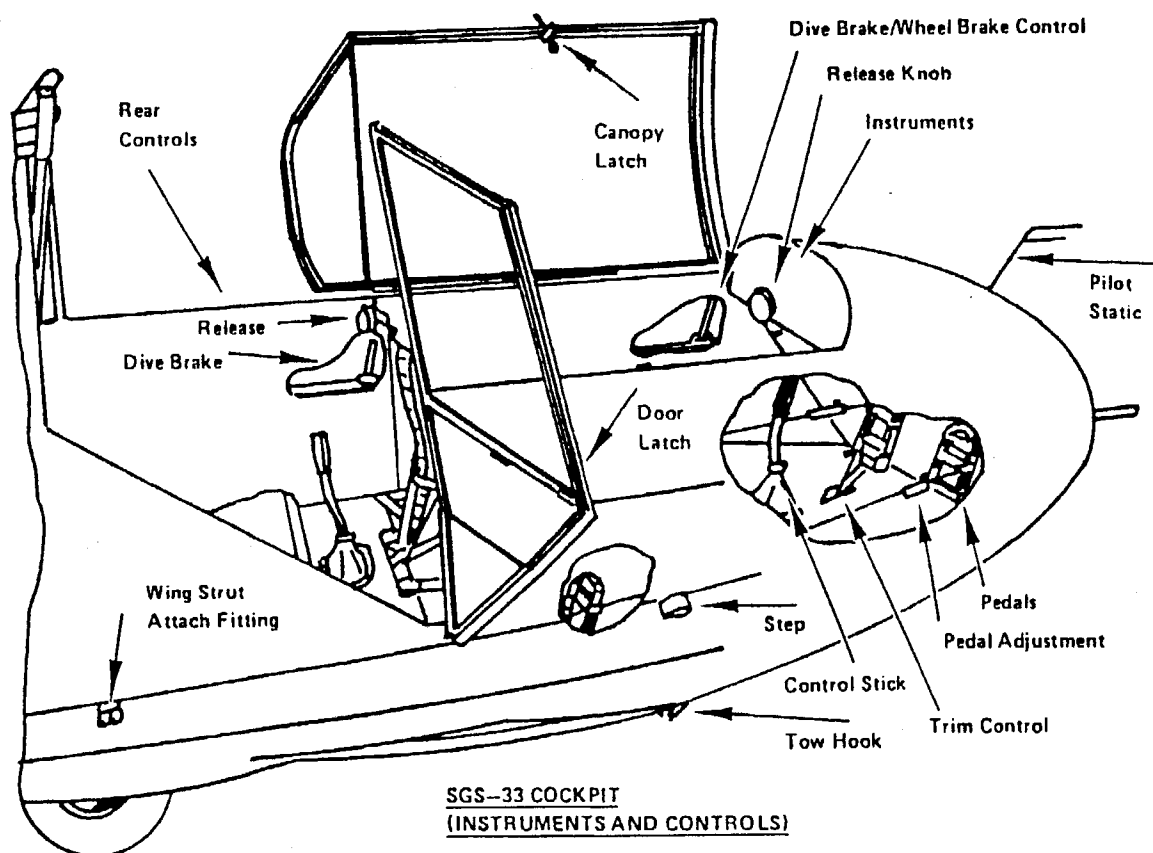

FIGURE 3-2
b. Above (Fig. 3-2) is a picture of the SGS 2-33 exterior cockpit area:
- (1) You fly in the front seat.
- (2) Don't apply excessive force to the canopy frame or plexiglass. Always keep the canopy closed and locked when not in use.
- (3) The tow hook below the front cockpit is where the tow rope is attached.
- (4) Between the tow hook and the main wheel is a metal strap called a skid. With a person in the front seat, the sailplane rests on the skid and main wheel. On the takeoff roll, when there is sufficient airspeed, the skid rises off the runway if you hold in some back stick pressure. On the final part of the landing roll out, the skid slides on the grass or ground and (along with wheel braking, if used) helps slow you down.
- (5) The pitot static tube near the aircraft's nose senses static air pressure and also dynamic air pressure when the aircraft is moving into the wind. Static pressure alone operates the altimeter and variometer. Static and dynamic pressure operate the airspeed indicator, which compares the two pressures to give you an airspeed indication.
- (6) The appendage directly on the nose is a handhold to aid in ground handling the sailplane. Push down on handhold to move tail around. Lower tail gently.
c. Inside the SGS 2-33 cockpit (refer to Fig. 3-2):
- (1) The instruments and radio in the front cockpit are the only ones in the sailplane. Your Instructor sees them over your shoulder. He/she may ask you to adjust them during flight.
- (2) There are no headsets in the 2-33. You and your Instructor will converse normally, although you may need to speak loudly to be heard by the Instructor in the back. The radio is heard via a speaker in the rear cockpit. You control the volume with the knob on the radio. Make radio calls with the hand-held microphone held close to your lips.
- (3) Operate the spoilers with the spoiler handle on the left side of the cockpit. Close the spoilers by sliding the handle forward and lock them in the closed position by rotating the handle up, as pictured. Open spoilers by reversing the process. The last inch or so of the spoiler handle travel activates the wheel brake. Be sure not to have the wheel brake on during the landing touch down.
- (4) The release knob sits in the lower center of the instrument panel. Pulling out the knob a few inches opens the tow hook. Touch this knob only when you hook up to a tow rope and when you want to release from tow. Inadvertent activation on the release knob in flight could put you and your Instructor in a precarious situation.
- (5) In the rear cockpit, your Instructor has a control stick, rudder pedals, a spoiler handle, and a release knob that all work exactly the same as yours.